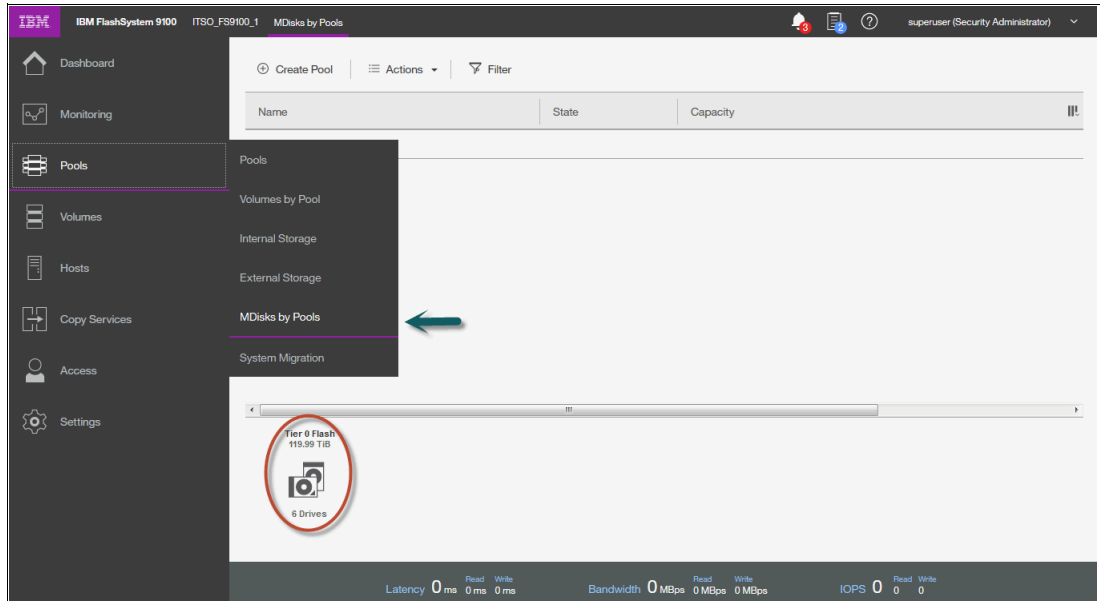

Figure 5-21 Option to create a storage pool in the MDisks by Pools pane
2. Navigate to **Pools** → **MDisks by Pools** and click **Create Pool**, as shown in Figure 5-21.